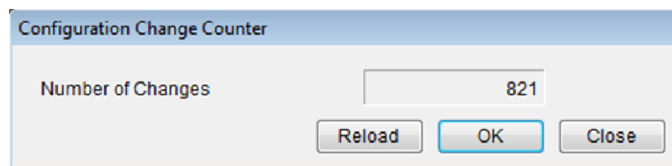

Figure 5.9—Configuration Change Counter dialog
1. Choose **Maintenance>Configuration Change Counter**. The *Configuration Change Counter* dialog (Figure 5.9) will appear.
2. If you are using a HART host, the Configuration Change Counter dialog provides a method to reset Configuration Change Bit to acknowledge the changes through HART. From the *Configuration Change Counter* dialog (Figure 5.9).